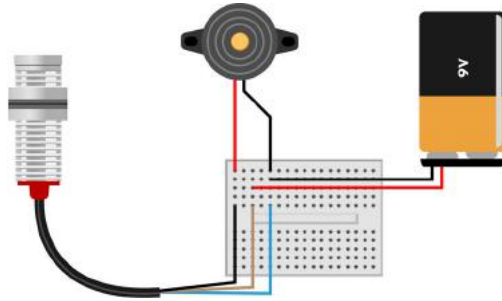

Figure 2-5. Circuit diagram for the Hall sensor alarm
1. Orient your breadboard so that it is wider than it is tall, as shown in Figure 2-5.